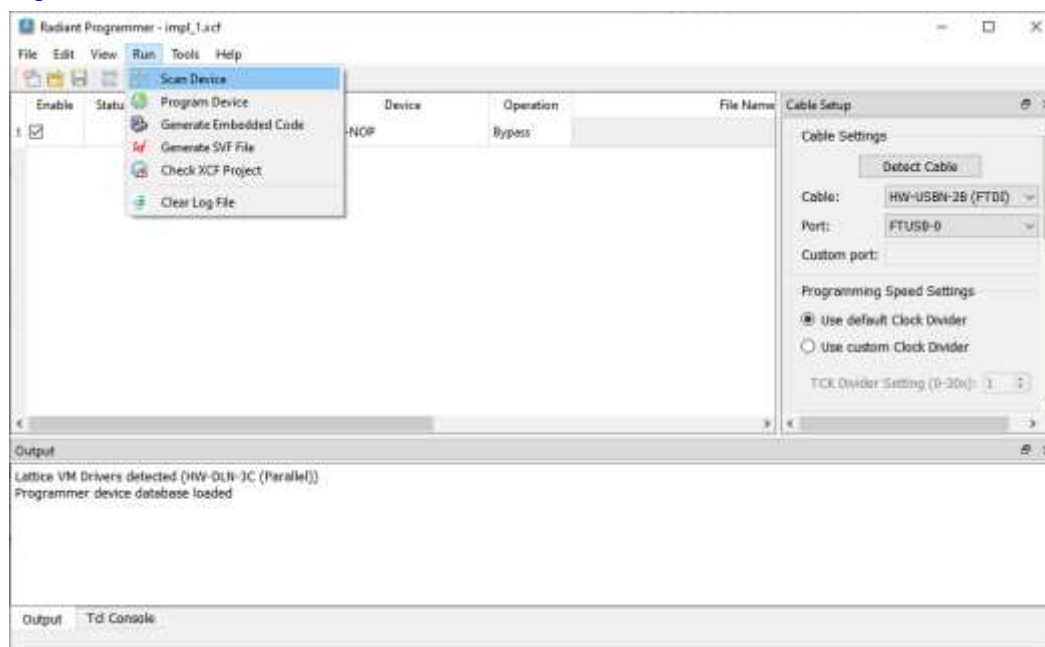
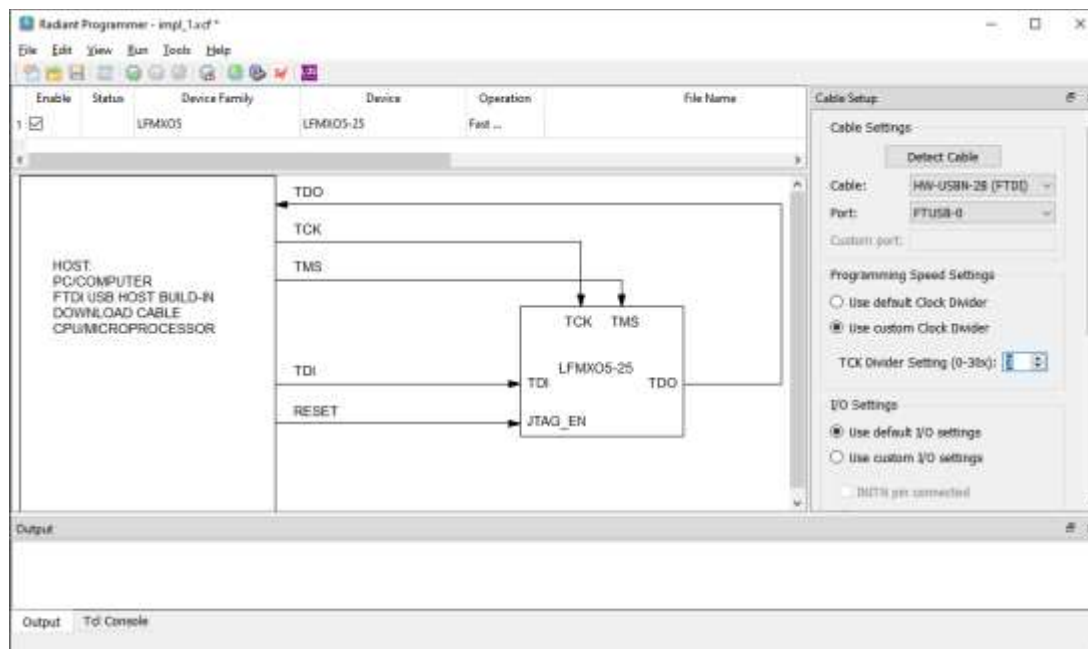

Figure 9.3. Radiant Programmer -Scan Device
Figure 9.4. Radiant Programmer – Device Detected
- Click **Run > Scan Device** to check the board through FTUSB-0 Port of embedded HW-USBN-2B(FTDI) cable, as shown in Figure 9.3. The MachXO5-NX device named as LFMXO5-25 should be detected on the JTAG chain as shown in Figure 9.4.
- Change the **Programming Speed Settings** in the **Cable Setup** pane on the right. Use **custom Clock Divider** option to increase the **TCK Divider Setting** to 3 or above, as shown in Figure 9.4.